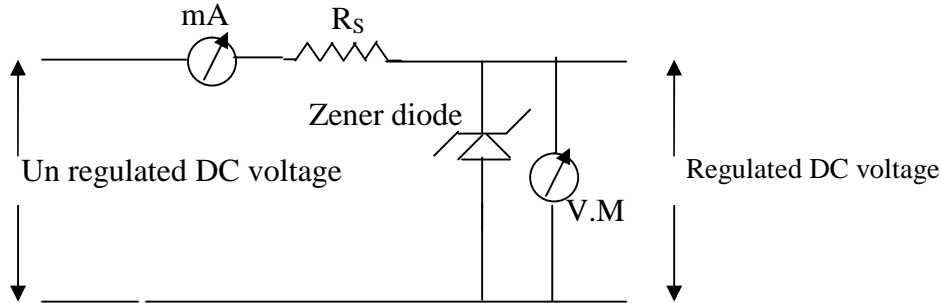

FIG 1
The connection are made is shown in FIG. 1.
Definition: When the amplitude of high frequency carrier wave is changed in accordance with the instantaneous value of the amplitude of the signal, it is called amplitude modulation. However the frequency of the modulated wave remains the same i.e at carrier frequency. The following fig (1) shows the principle of amplitude modulation. Fig 1(a) shows the audio electrical signal where as fig 1(b) shows a carrier wave. Fig 1(c) shows the amplitude modulated (AM) wave.